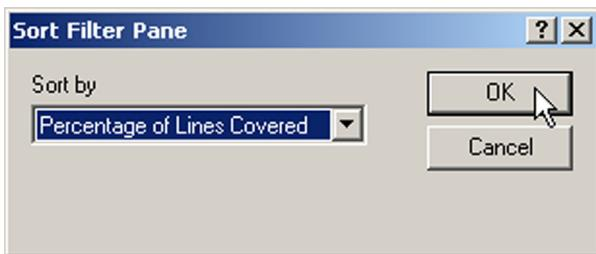

Figure 4-8. Sort Filter Pane Dialog
- 3 Click **OK** to close the dialog (Figure 4-8) and re-sort the Filter Pane.